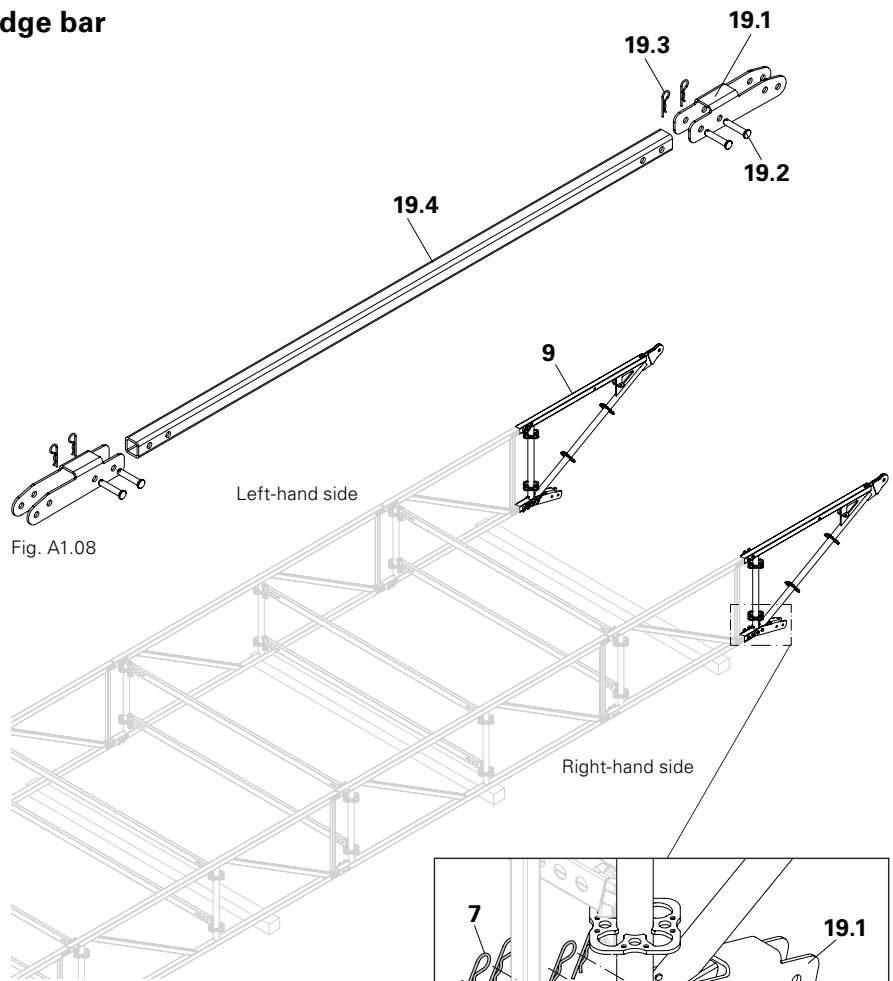

Fig. A1.08
2. Set the rectangular tube (19.4), bolt (19.2) and cotter pin (19.3) to one side. (Fig. A1.08)